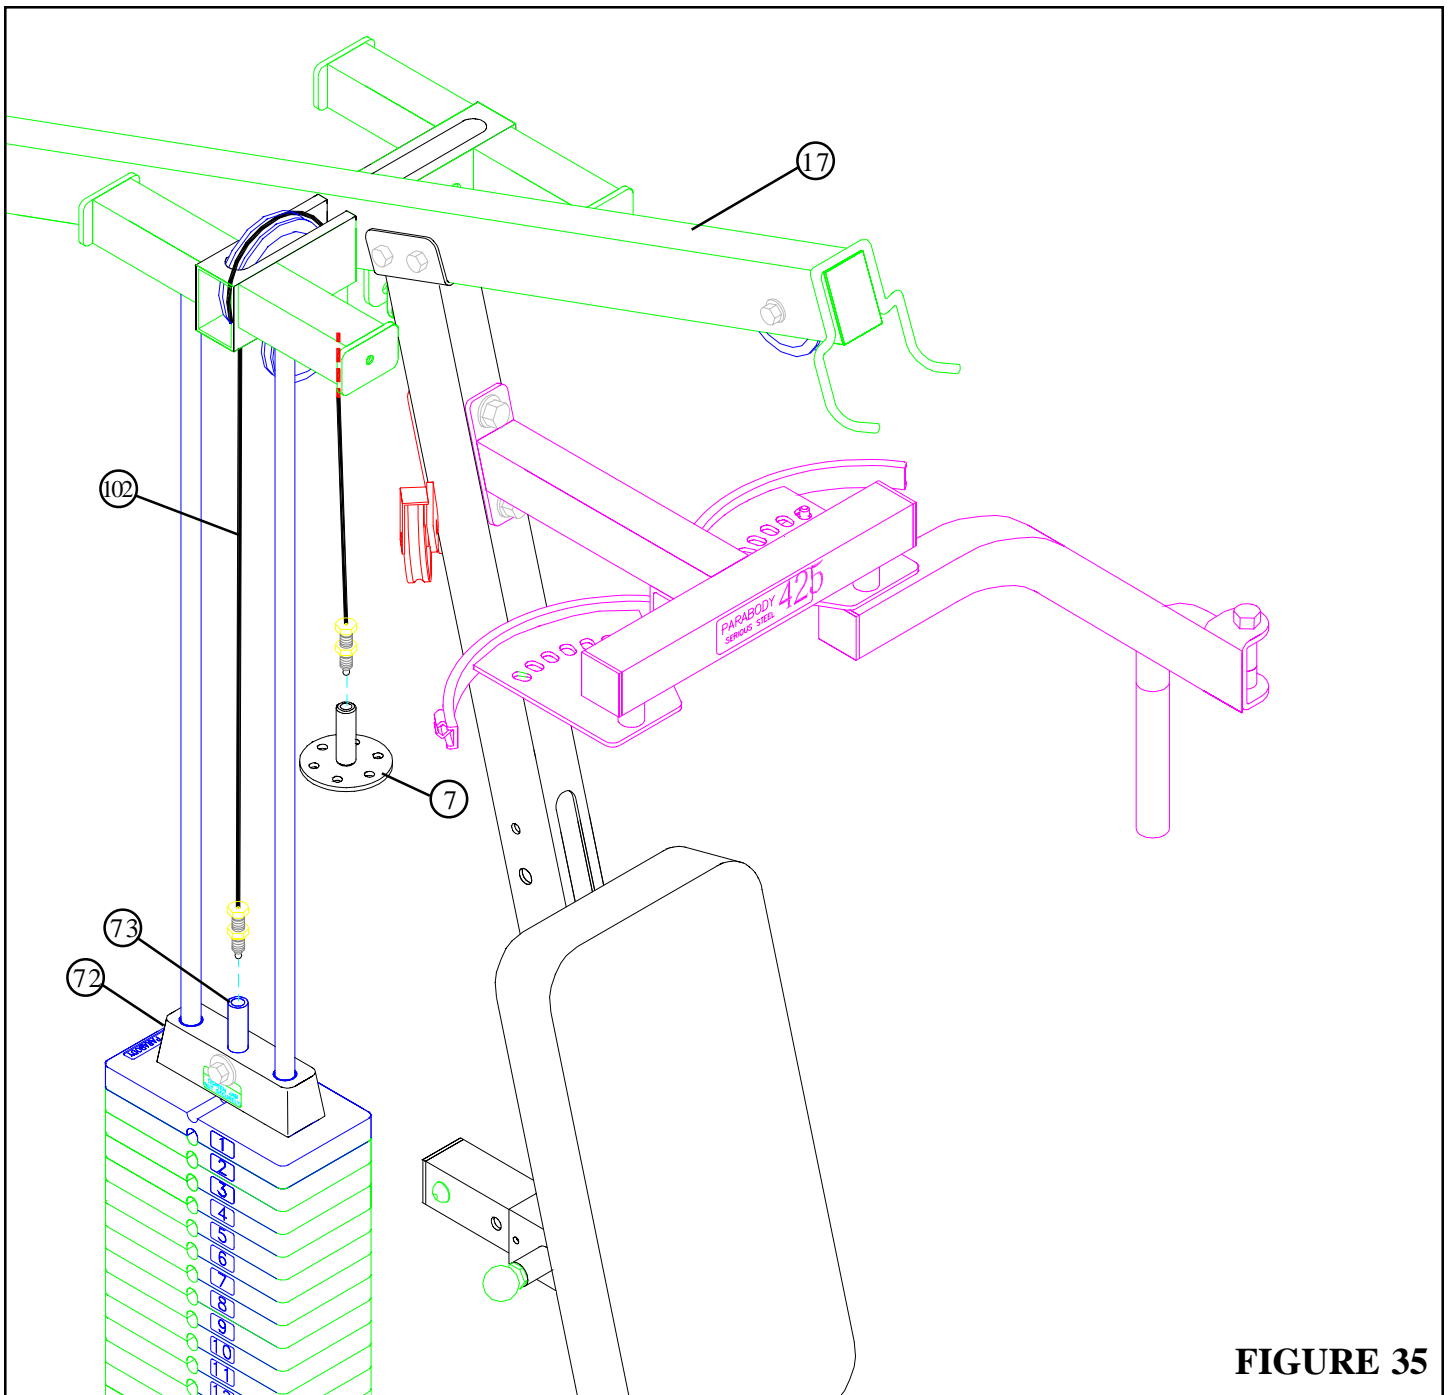

FIGURE 35
- To assemble the D-RING CABLE (102) follow the cable routing as shown and use the following steps:
- Screw one of the threaded ends of the D-RING CABLE (102) approximately 1" into the end of the SELECTOR SHAFT (73) of the HEAD PLATE (72) as shown in FIGURE 35.
- Route the CABLE (102) up and over the two PULLEYS in the TOP BOOM (17) above the WEIGHT STACK. (**Remove pulleys for ease of installation.**)
- Screw the other threaded end of the D-RING CABLE (102) approximately 1" into the end of the shaft on the D-RING (7) as shown in FIGURE 35.